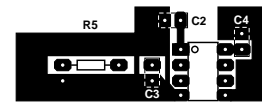

Figure 26. Top Layer of Printed Circuit Board Layout.
- Exact offset value is dependent on layout of external bypass capacitors. The offset value in the data sheet corresponds to Avago's recommended layout (see Figures 26 and 27).
and ensuring that any ground plane on the PCB does not pass directly below the HCPL-7850. Using surface mount components can help achieve many of the PCB objectives discussed in the preceding paragraphs. An example through-hole PCB layout illustrating some of the more important layout recommendations is shown in Figures 26 and 27. See Applications Note 1078, *Designing with Avago Technologies Isolation Amplifiers*, for more information on PCB layout consideration.